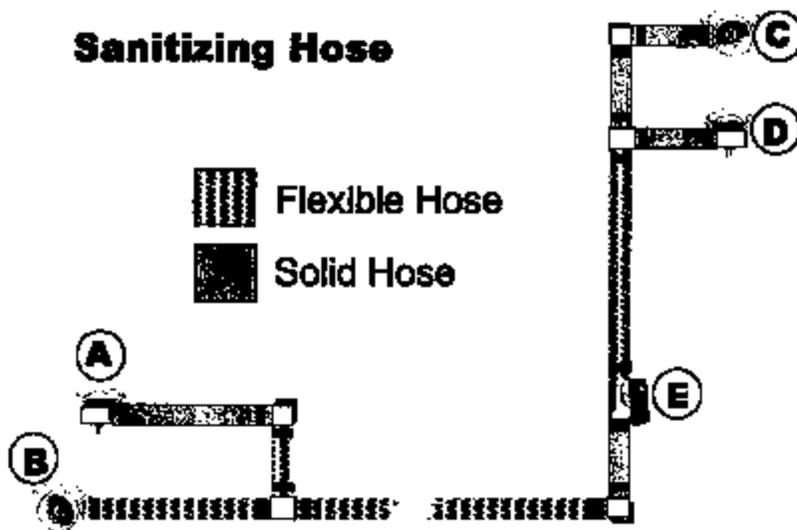

Fig. 5
7. Connect the sanitizing hose fitting Fig. 5-B (flexible hose) to the water pump outlet fitting where the hose was removed in step #5.
8. Attach the gray coupler on the solid hose (Fig. 5-A) to the hose removed from the water pump outlet fitting in step #5.
10. Connect the fitting on the sanitizing hose (Fig. 5-C - Firenza & 5-D - AVATAR) to the "City Water/Fresh Tank Fill Valve" on the utility panel where the hose was removed in step #9.
11. Connect the coupler on the sanitizing hose (Fig. 5-D - Firenza & 5-C - AVATAR) to the hose removed from the utility panel in step #9.
15. Remove the valve handle from the valve located on the sanitizing hose. (Fig. 5-E)